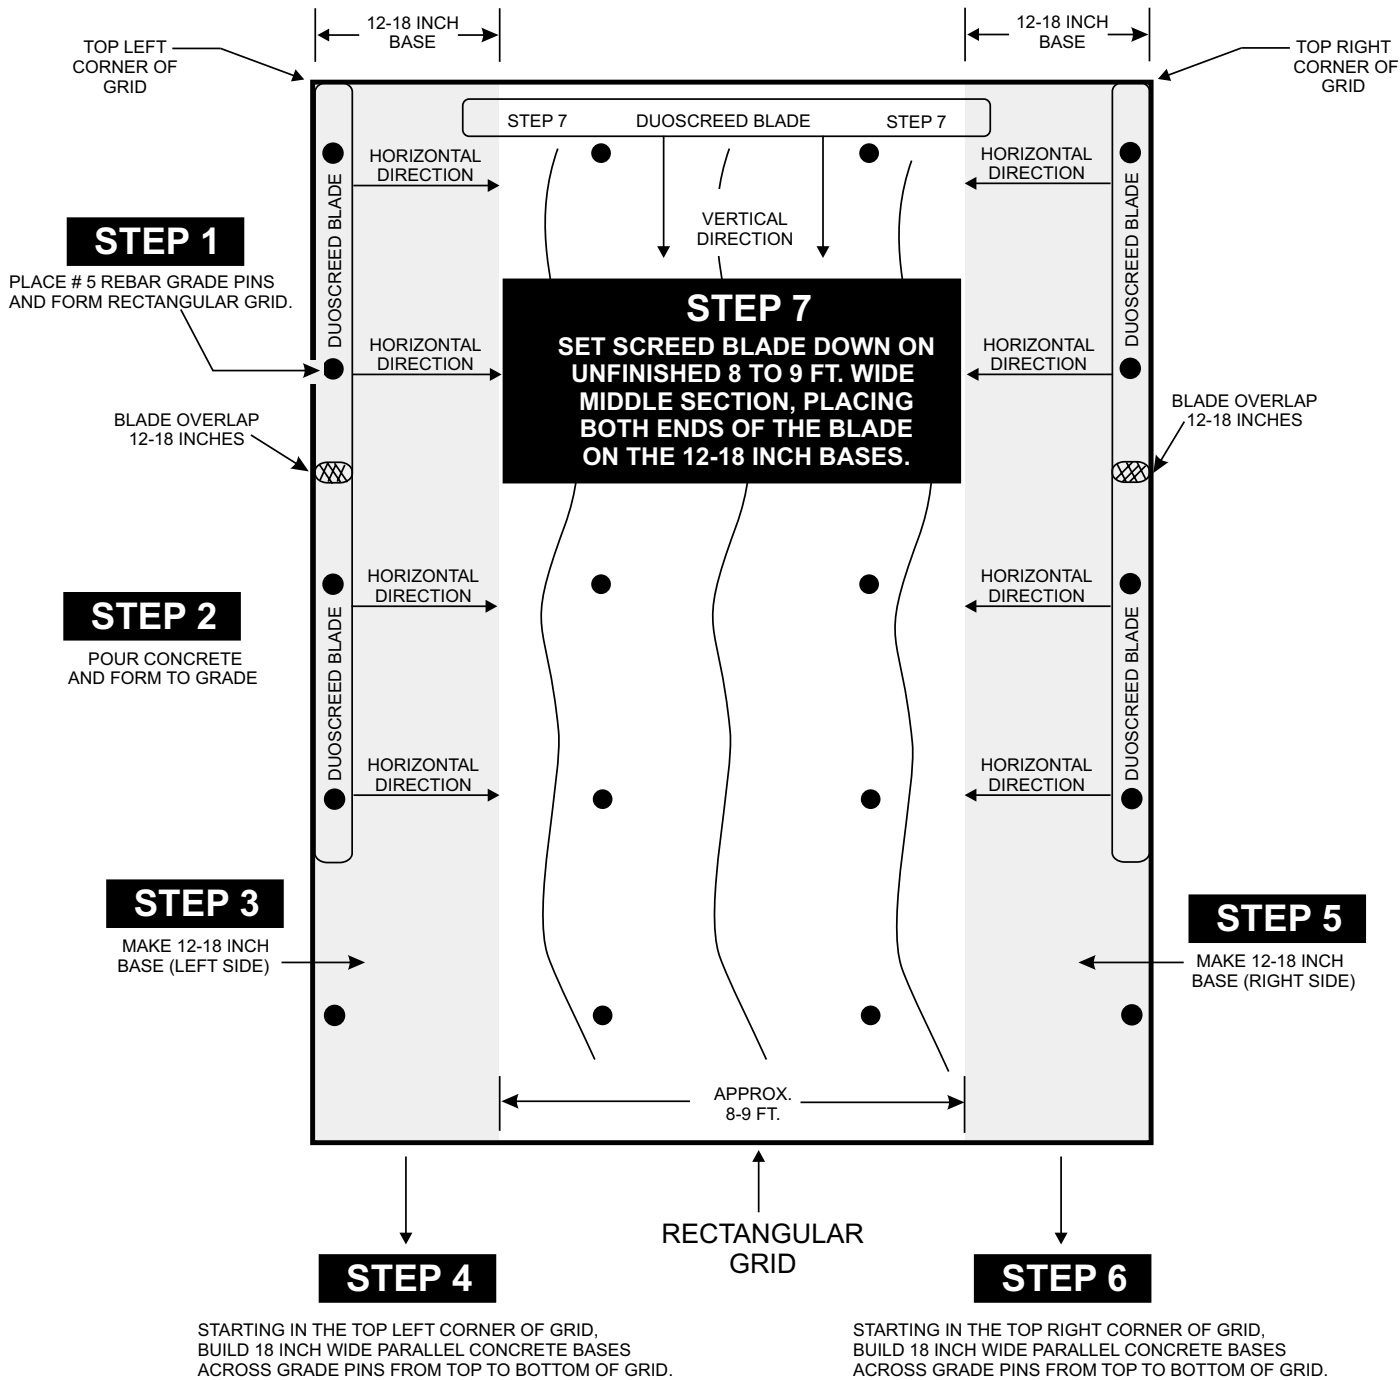

Figure 16. DuoScreed Wet Screeding Application
8. Set the DuoScreed blade down in the concrete base in the **left** most corner of the grid between the two grade pins as shown in Figure 16. Adjust the DuoScreed's handle bar to a height where the operators is not bending over, but standing upright with arms extended forward.
12. After a complete pass over the first set of grade pins has been made, remove the DuoScreed from the concrete base and position it over the second set of grade pins (Figure 16), overlapping the first set of grade pins between 12-18 inches. Repete this process until all **left** edge grade pins have a level base between 12-18 inches wide.